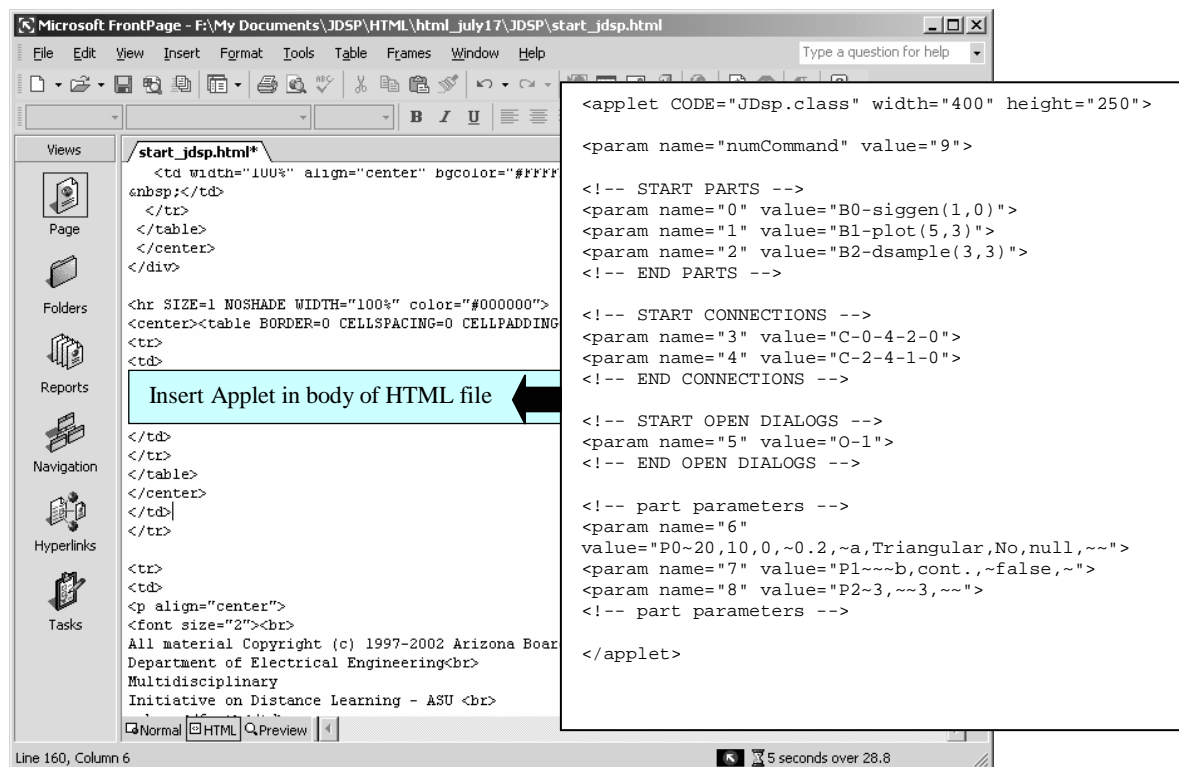

Figure 3: Pasting a J-DSP script using Ms FrontPage
- Place the cursor where desired and paste the applet code using *Ctrl-V* or right click and *Paste* as shown in figure 3.